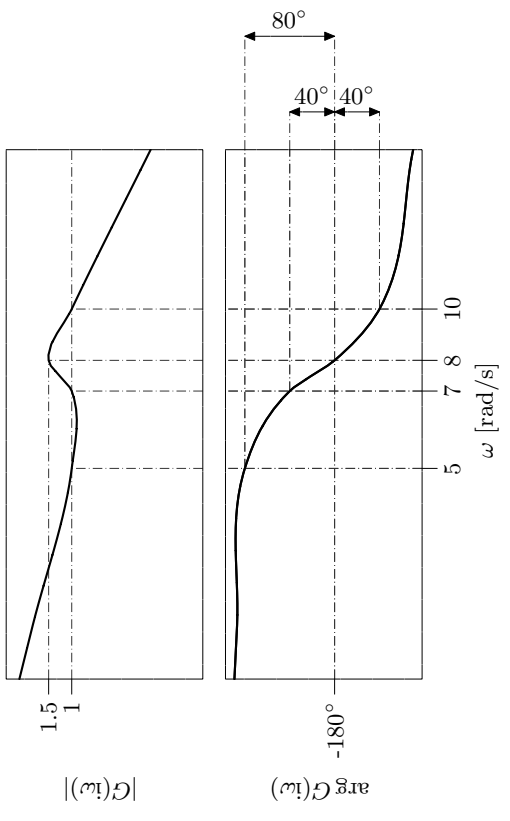

Figure 5.8c
- The same as in a), but for the plot in Figure 5.8c.